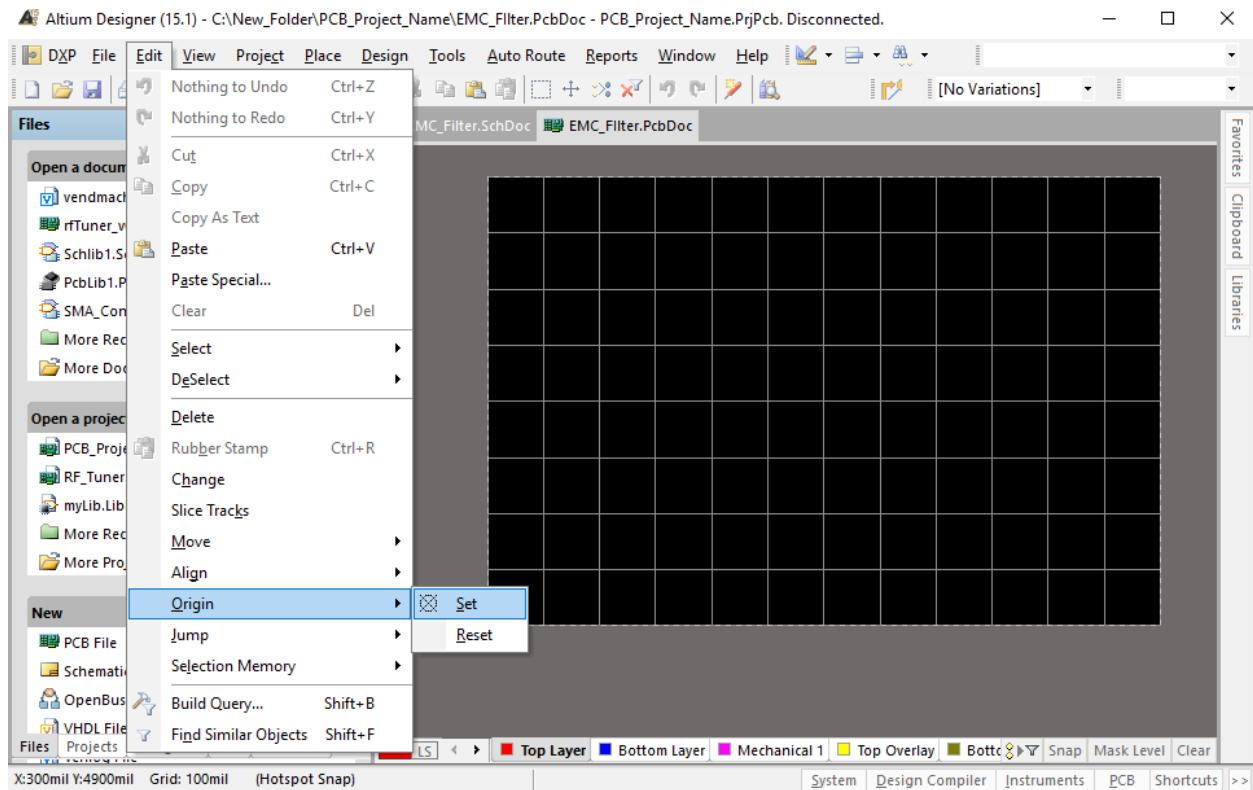
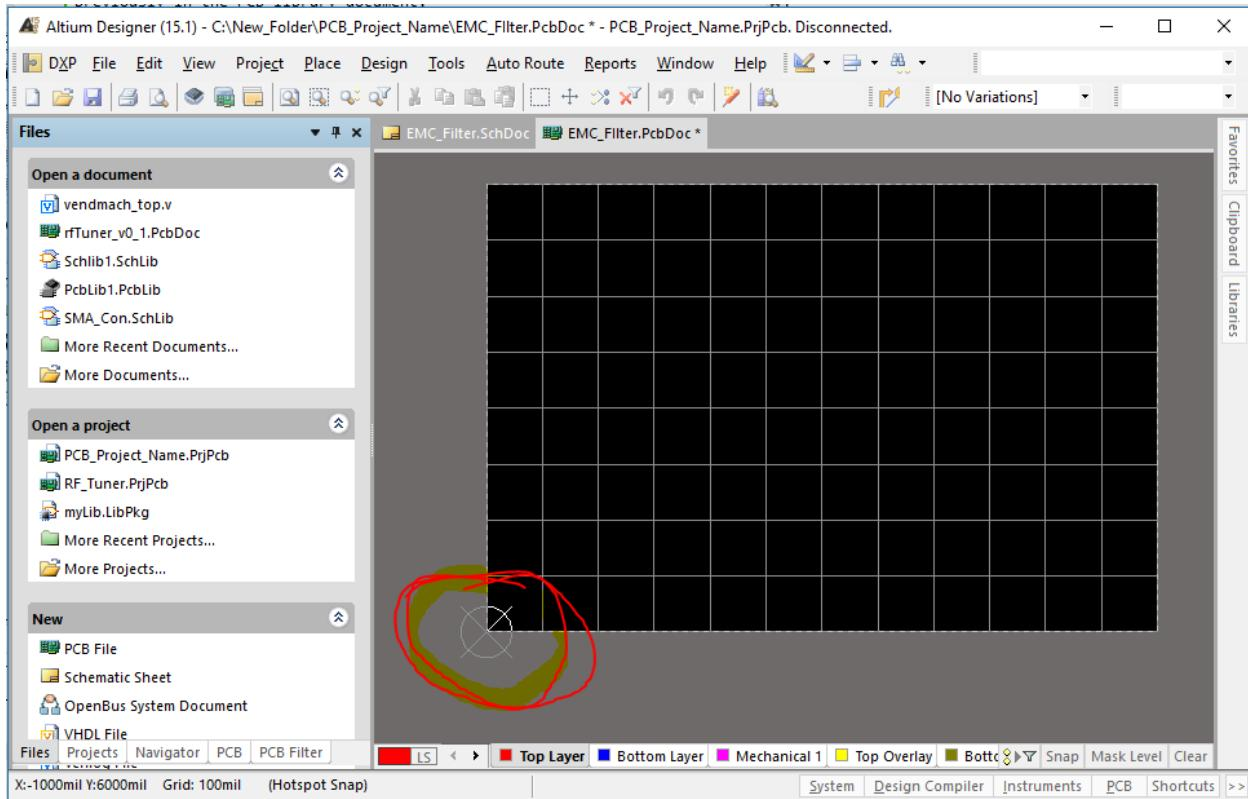

Figure 69: Altium PCB set Origin.
Figure 70: Altium PCB Origin set to bottom left corner.
42. First, and **very important**, zoom out and set the reference point on the lower left edge of the PCB board. To do so change the grid by press **G** and choose **100 mils**. Then in menu bar chose **Edit → Origin → Set**, as shown in Figure 69. Place the Origin of measurement to the lower left corner of the PCB board outline. as shown in Figure 70.